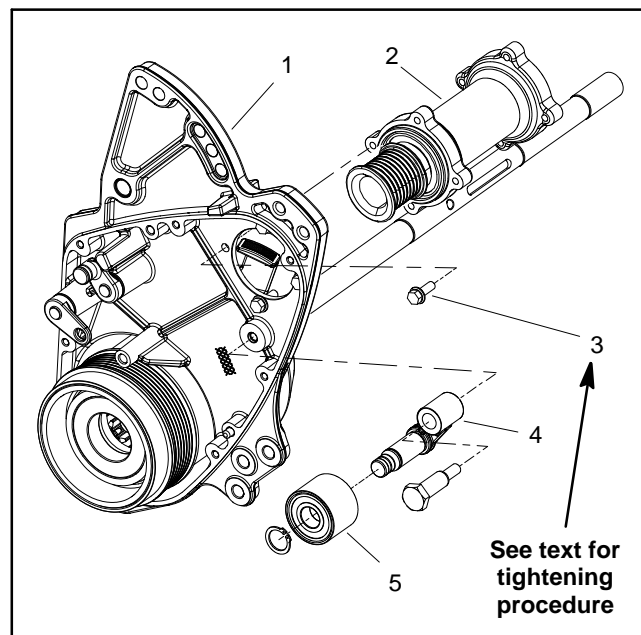

Figure 48
3. Remove flange head screw (item 12) and hardened washer (item 5) that secure driven pulley (item 6) to shaft. Slide pulley from shaft. Locate and retrieve woodruff key (item 9).
5. Slide traction drum drive driven pulley (item 4) from extension housing.
6. If necessary, remove ball bearings (item 3), spacer (item 7) and wave washer (item 8) from extension housing.
7. If it is necessary to remove extension housing (item 2):
A. Loosen fasteners (items 12, 11 and 13) that secure transmission housing to machine frame.
B. Remove four (4) washer head screws that secure extension housing to transmission housing and RH drum drive housing.
C. Remove four (4) washer head screws that secure extension housing to RH drum drive housing (Fig. 48).